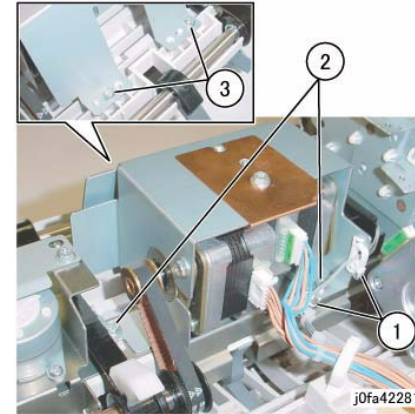

Figure 4 Removing Screws (j0fa42281)
9. Remove the screws securing the Eject/Set Clamp Motor Assembly. (Figure 4)